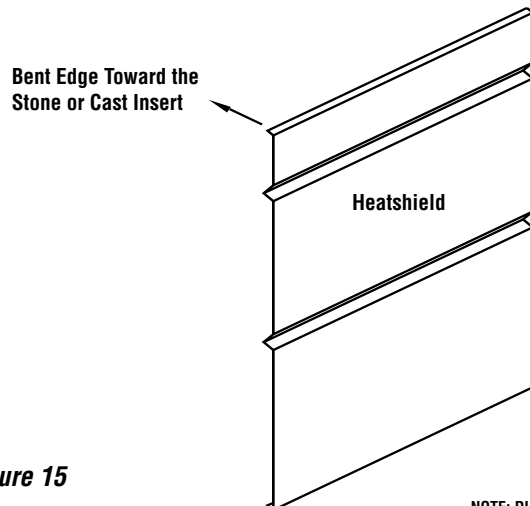

Figure 15
3. Slide the cast iron or stone side inserts (size 15.5" x 10.5") (with the desired surface facing out) in behind the lower retaining bracket E. See Figures 15, 16 and 17. Note that the cast iron inserts are reversible - both sides have different designs.
4. Slide the heatshield (with the bent edges toward the cast or stone inserts - Figure 15) in between the cast or stone insert and the lower retaining bracket E.